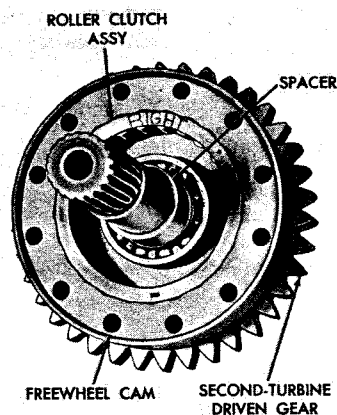

Fig. VI-9. Second-turbine driven gear and freewheel unit
(7) Install the freewheel cam with roller clutch assembly on second turbine driven gear 3 (B, foldout 4), making sure to align the twelve bolt holes (fig. VI-9).
(8) Install freewheel cam washer 7 (B, foldout 4) and twelve 3/8-24 x 2 1/4 bolts 8 into freewheel cam 5 and second-turbine driven gear 3. Tighten twelve nuts 2 to 41 to